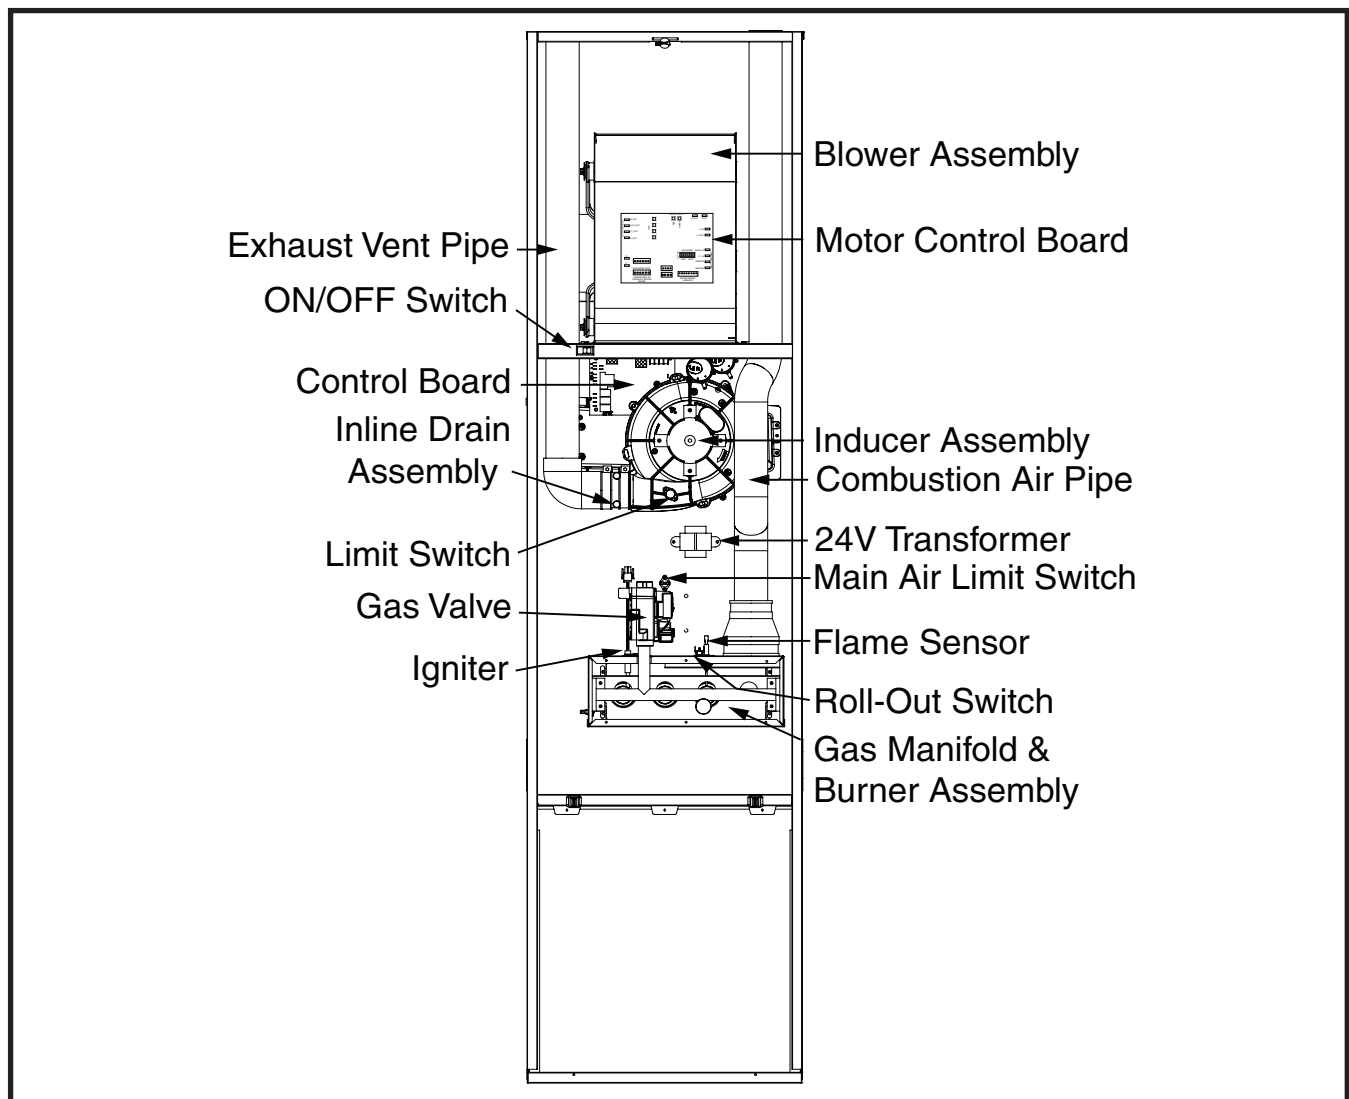

Figure 23. Furnace Components
Cleaning of Burners - If the burners must be cleaned, follow steps 1-12. For component locations see Figure 23.
- If the inducer blower is operating, and items above have been verified, check the blower limit switch and reset if necessary. For component locations see Figure 23.
The descriptions below are various functional components that affect the operation and shutting down of this furnace. Some of these components and their locations are shown in Figure 23. If any component of the furnace must be replaced, use only factory authorized replacement parts specified in the Replacement Parts List provided online.